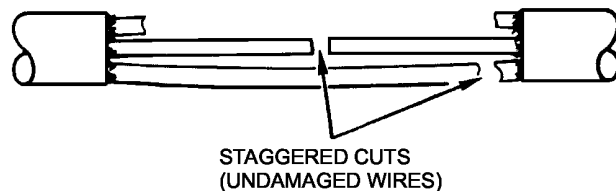

Figure 10. Undamaged Wires Cut at Staggered Locations
i. Cut undamaged wires at staggered locations (Figure 10).